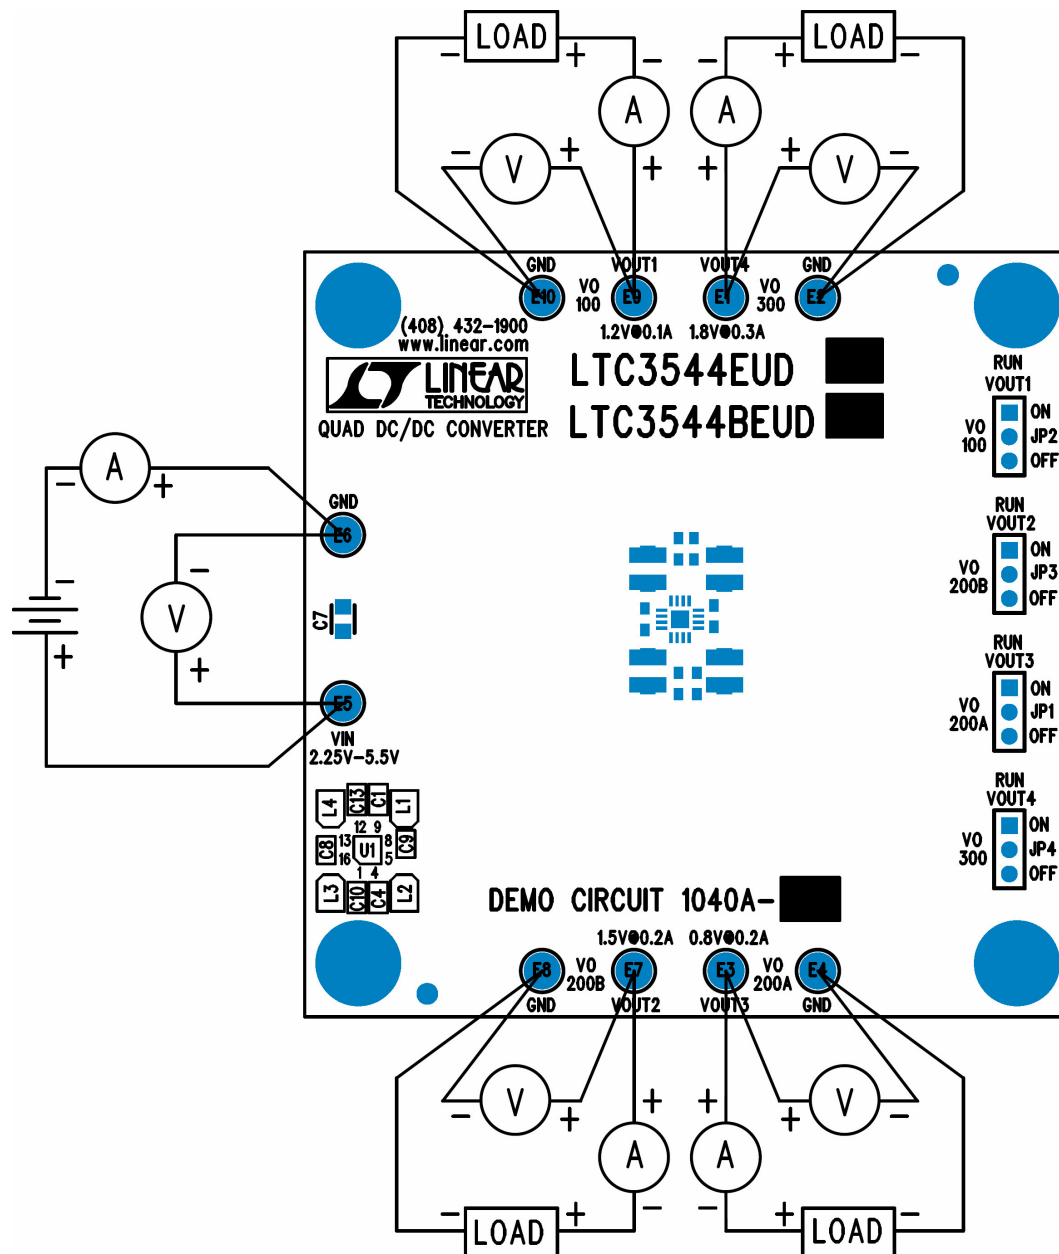

Figure 1. Proper Measurement Equipment Setup
Demonstration Circuit 1040 is easy to set up to evaluate the performance of the LTC3544. For proper measurement equipment configuration, set up the circuit according to the diagram in Figure 1.
1. Connect the input power supply to the VIN and GND terminals. Connect the loads between the matching VOUT and GND terminals. Refer to Figure 1 for the proper measurement equipment setup. Make sure that loads on outputs VOUT1 through VOUT4 do not exceed 100mA, 200mA, 200mA and 300mA respectively.